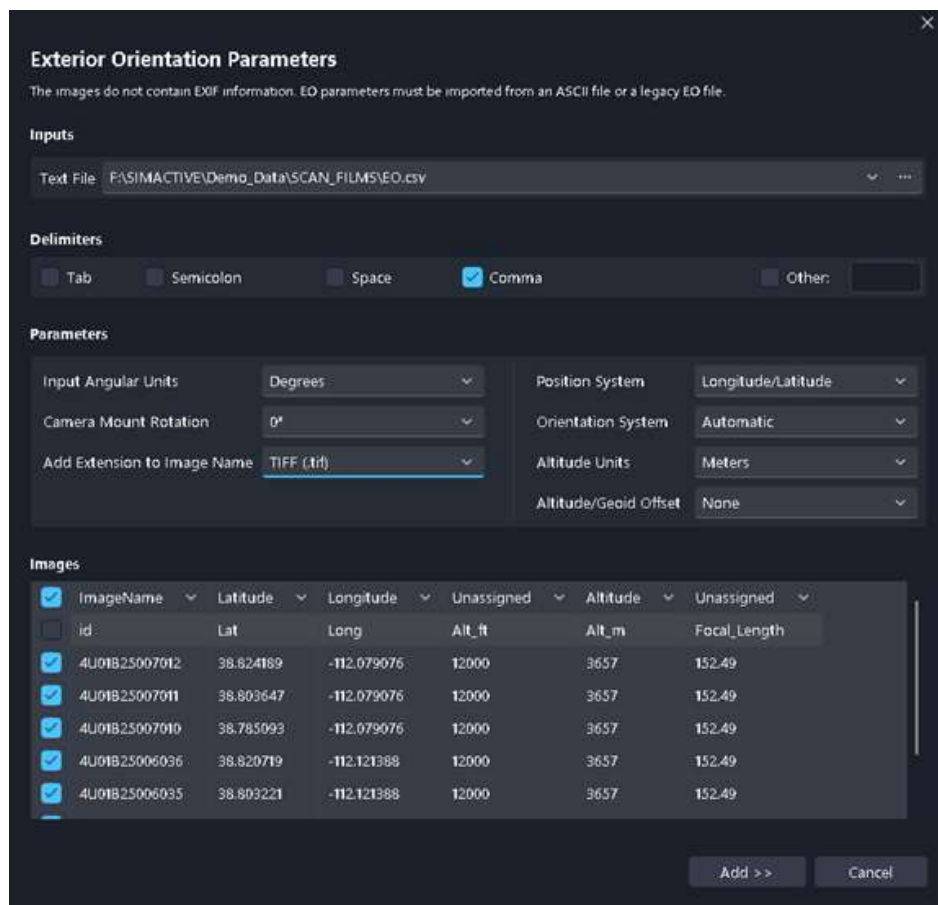

Figure 1: Exterior Orientation Parameters dialog for importing EO data.
3. Import the exterior orientation (EO) file in CSV, TXT, or ASCII format since scanned films typically do not contain EXIF metadata (Figure 1).